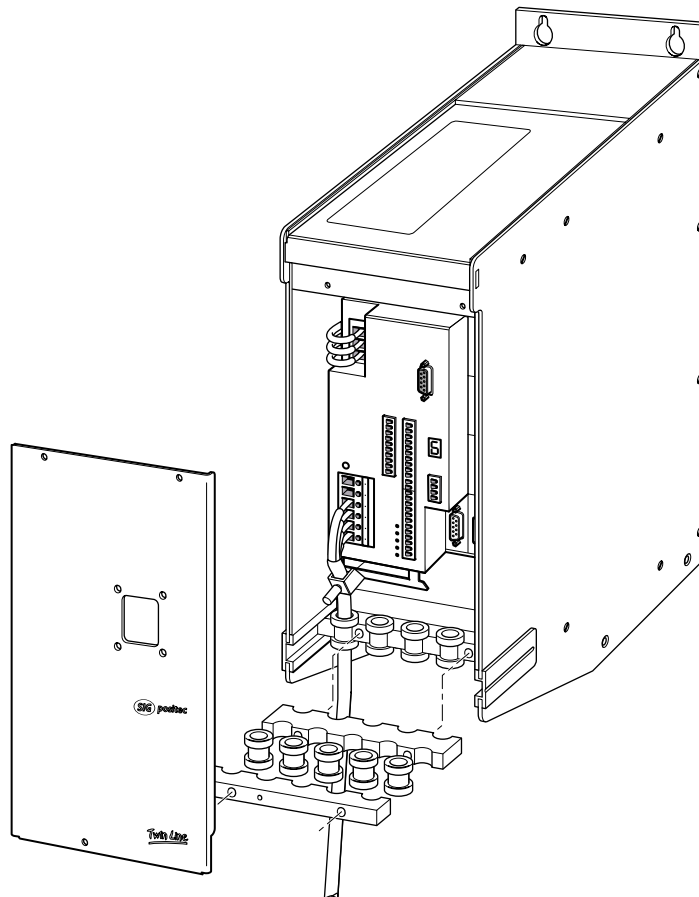

Fig. 4.6 Connection example for the TLC61xP unit
- ▶ Mount the grommets as shown in Fig. 4.6.